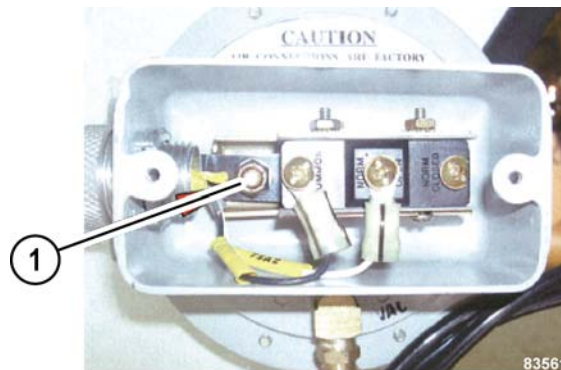

FIGURE 5-3. BLOWER PRESSURE SWITCH
- c. Use a 3/8" nut driver to turn adjustment nut (1, Figure 5-3) to increase (clockwise) or decrease (counterclockwise) the rpm at which the blower engages.
4. Place GF cutout switch (2, Figure 5-3) on the control cabinet in the CUTOUT position.